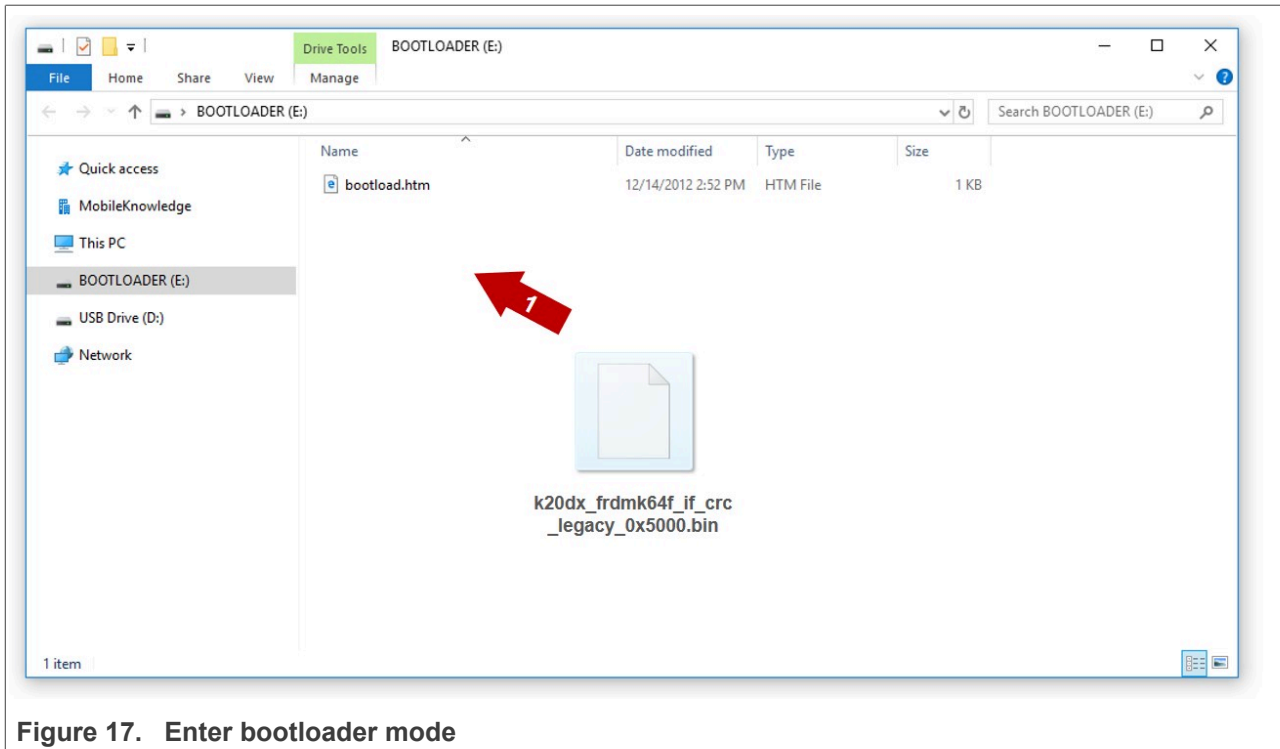

Figure 17. Enter bootloader mode
5. Drag and drop or copy and paste the binary file into the BOOTLOADER drive from your computer file explorer as shown in Figure 17. The FRDM-K64F will automatically un-mount after the drag and drop operation.